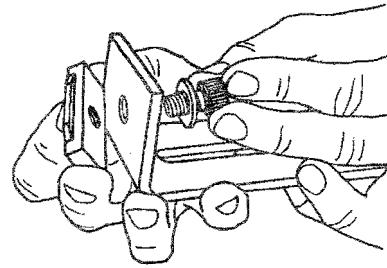

Fig. 3
3. Place a 3/8" washer (7) on a 5/8" long cap screw (6). Thread the screw through the bracket (8) and into the 3/8" T-nut (5), as seen in Fig. 3. Do not tighten yet.